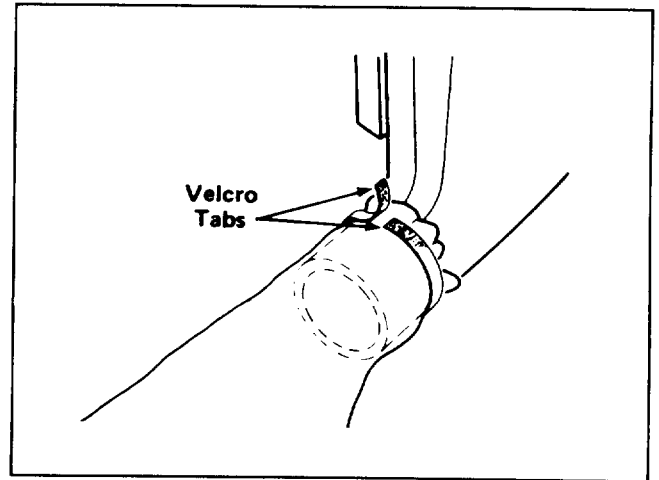

Figure 5
5. Fit opening of bag over outlet collar on blower. Pull strap tightly to overlap velcro tabs and secure behind outlet collar (Fig. 5).